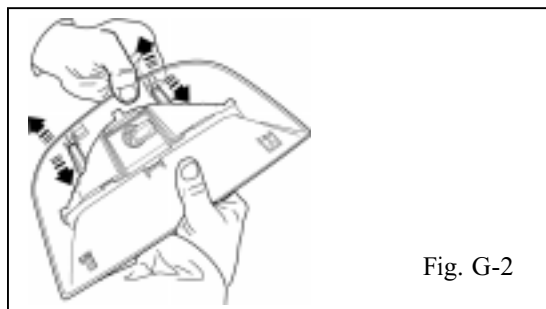

Fig. G-2
3. Carefully remove the CHMSL from the CHMSL housing by flexing the housing and disengaging the clips. (Fig. G-2)